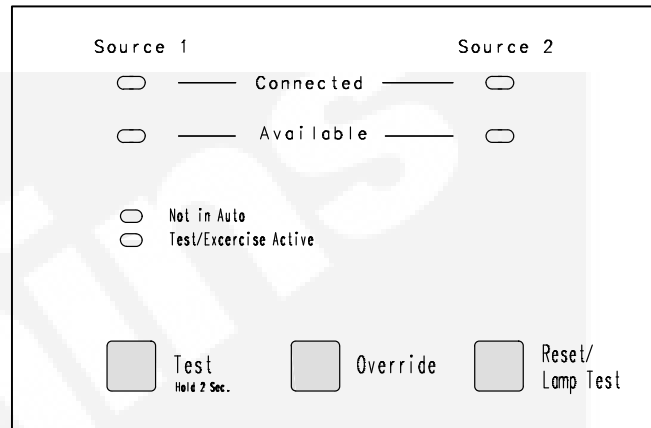

FIGURE 4-1. SWITCH PANEL
- **Front Panel Indicator:** The Source 1 or Source 2 Connected indicator is lit (Figure 4-1).
2. To transfer to Source 2, first, start the genset by pressing and holding the *Test* button on the front switch panel for 2 seconds (Figure 4-1). The Test/Exercise LED is on.